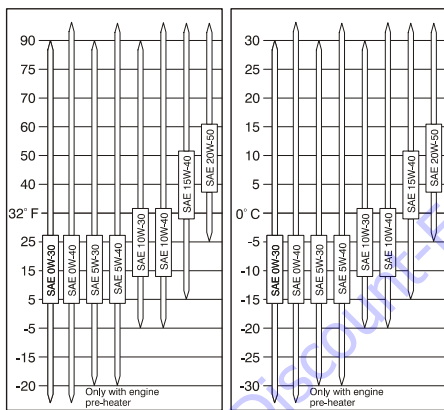

Figure 3-61. Engine Oil Viscosity
7. Pour in new engine oil. Refer to Section 1 for capacity and Figure 3-61., Engine Oil Viscosity.